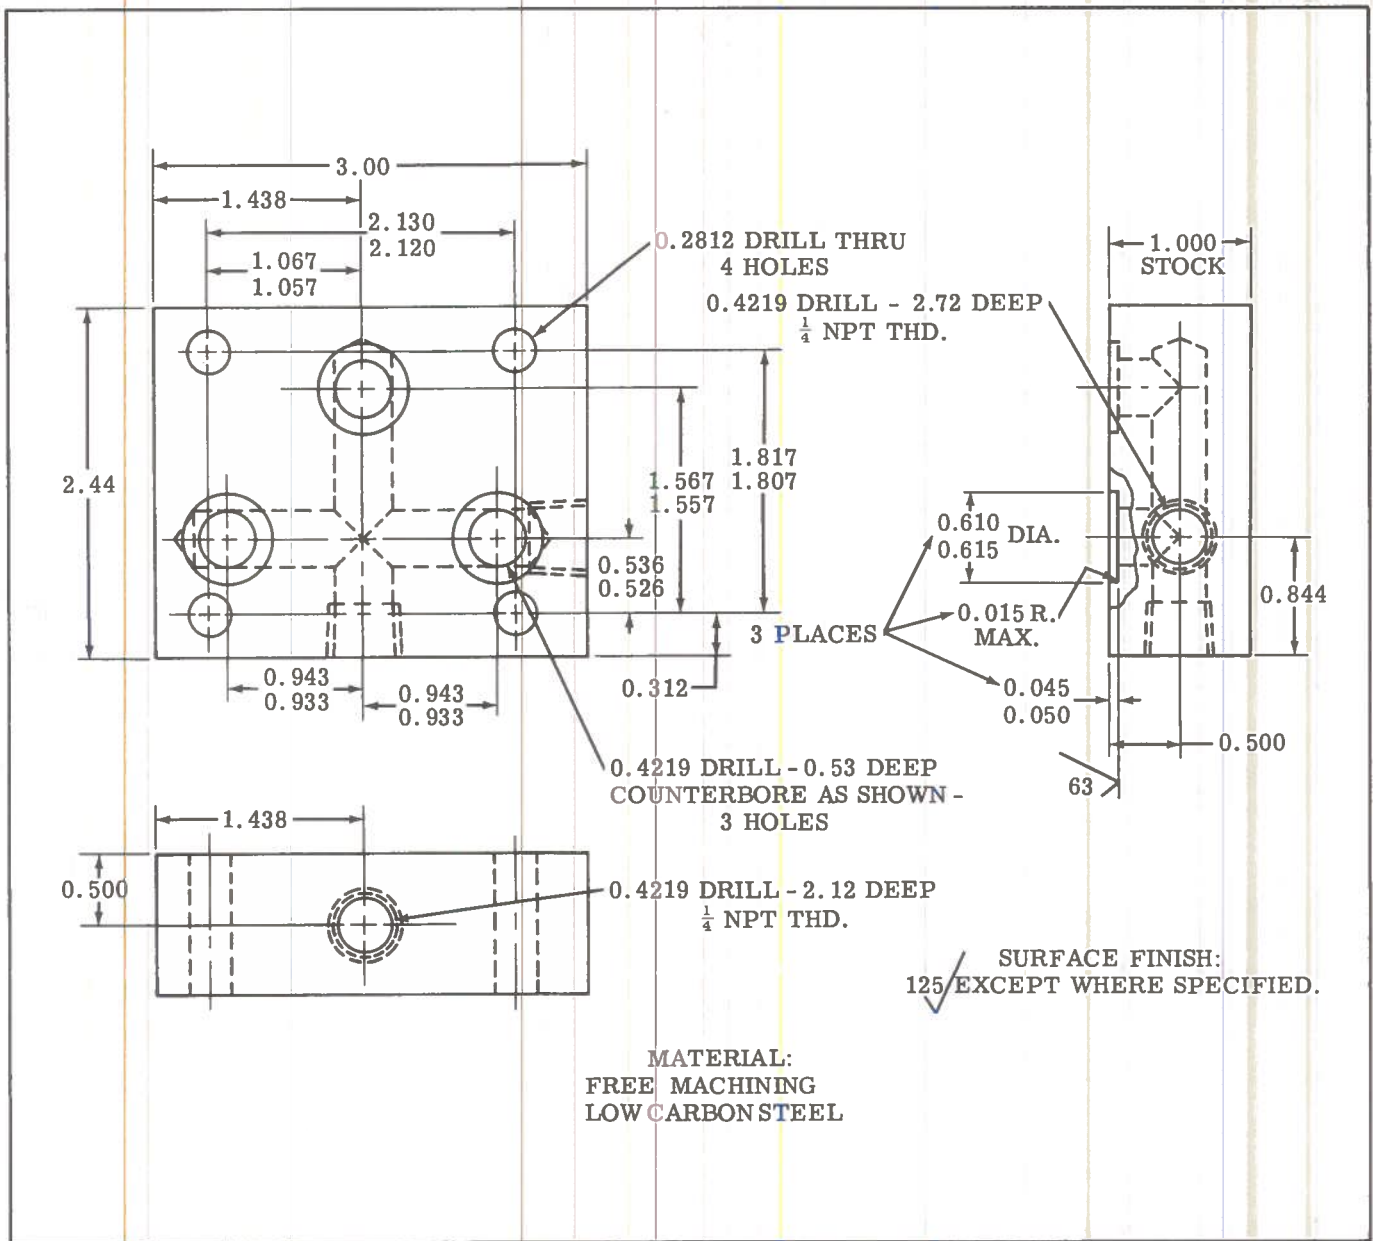

Figure 6. Flushing Plate
2. Flushing plate. Refer to figure 6 for dimensions.
2-8. UNIT INSTALLATION. Flush the system through 10 micron full flow filters prior to installing the servovalve. A flushing plate can be manufactured. (See Figure 6.) The plate passes the fluid directly to the tank port. Continue flushing until new filters show no sign of contamination. It may be necessary to